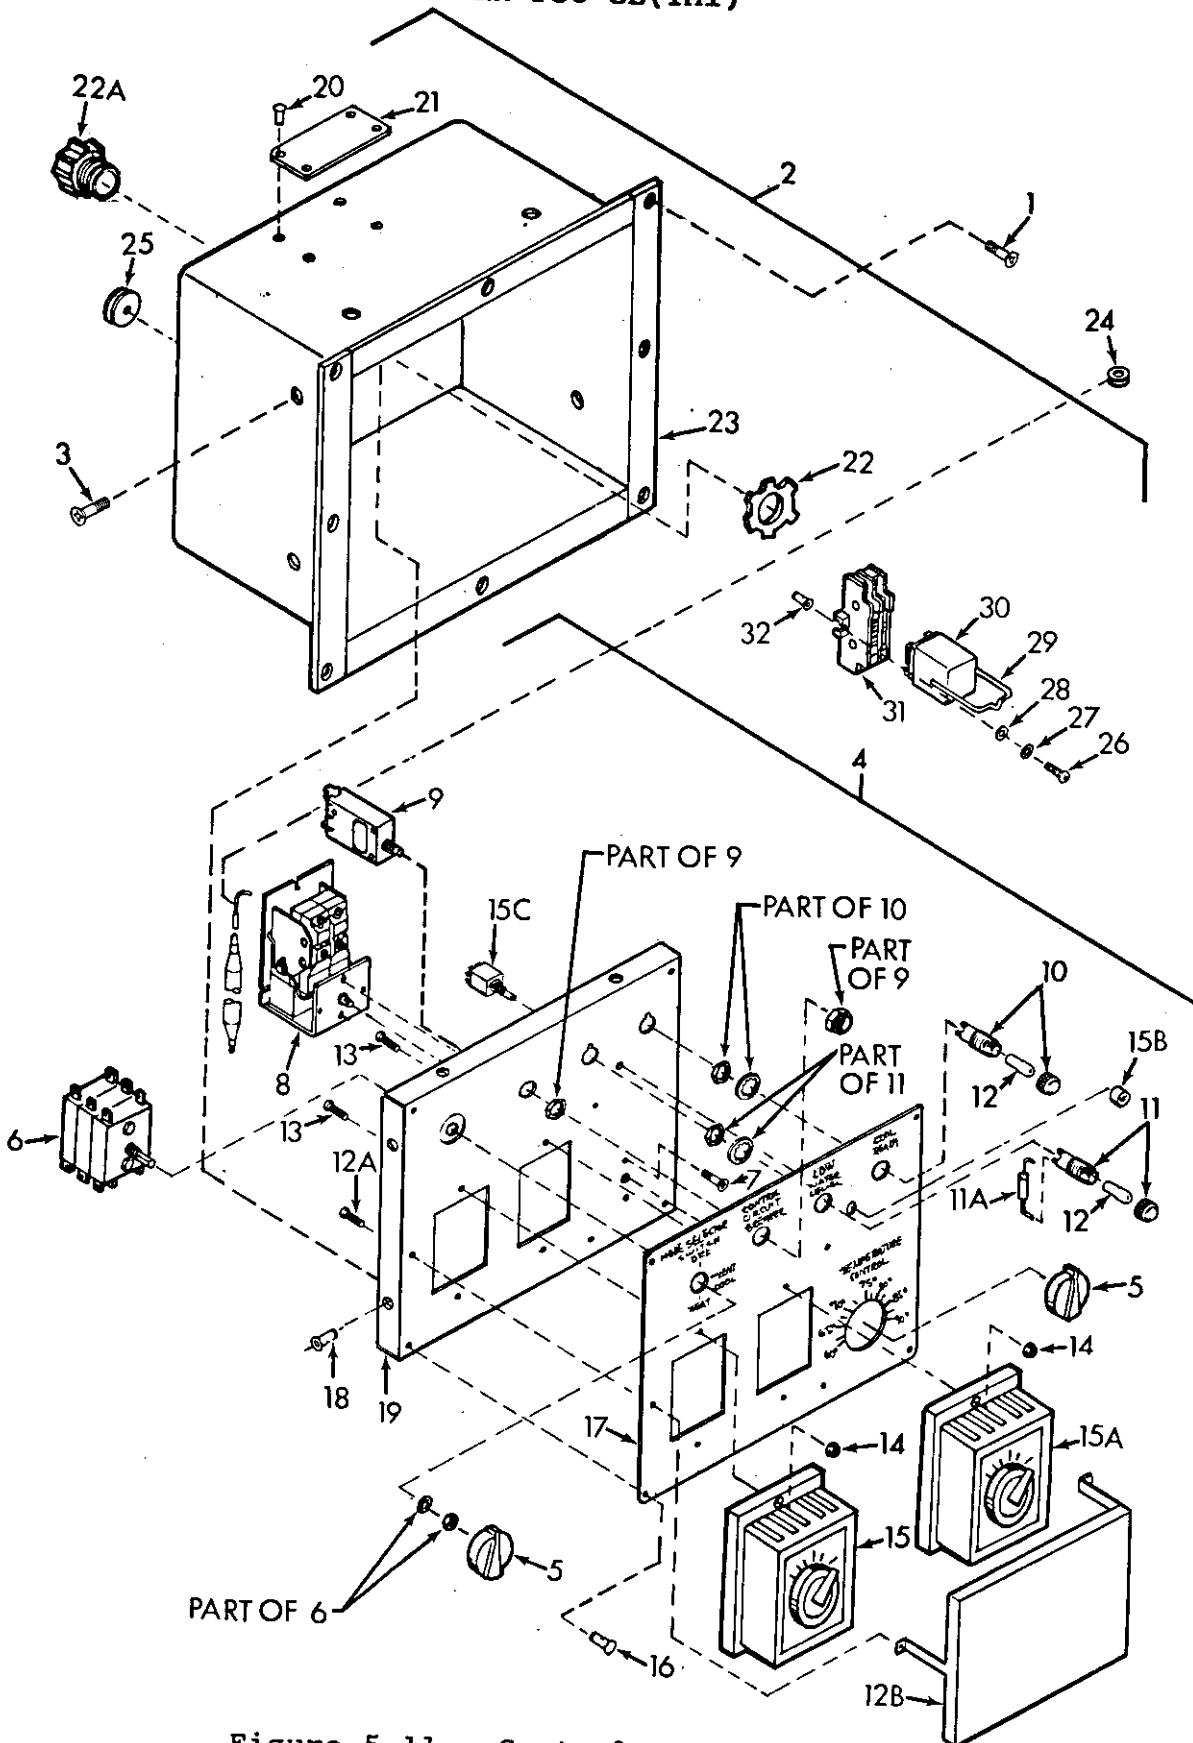

Figure 5-11. Control Box Assembly
(3) Remove grommet at top of channel between filters.
(4) Carefully slip bulb up and thru hole at top of channel.
(5) If control panel is to be totally removed, tag and disconnect wire leads and remove control panel and box from unit.
(6) If temperature control only is to be removed, see para 5-15.
f. For total control panel disassembly see figure 5-11, and individual paragraphs for specific components.
Legend for figure 5-11